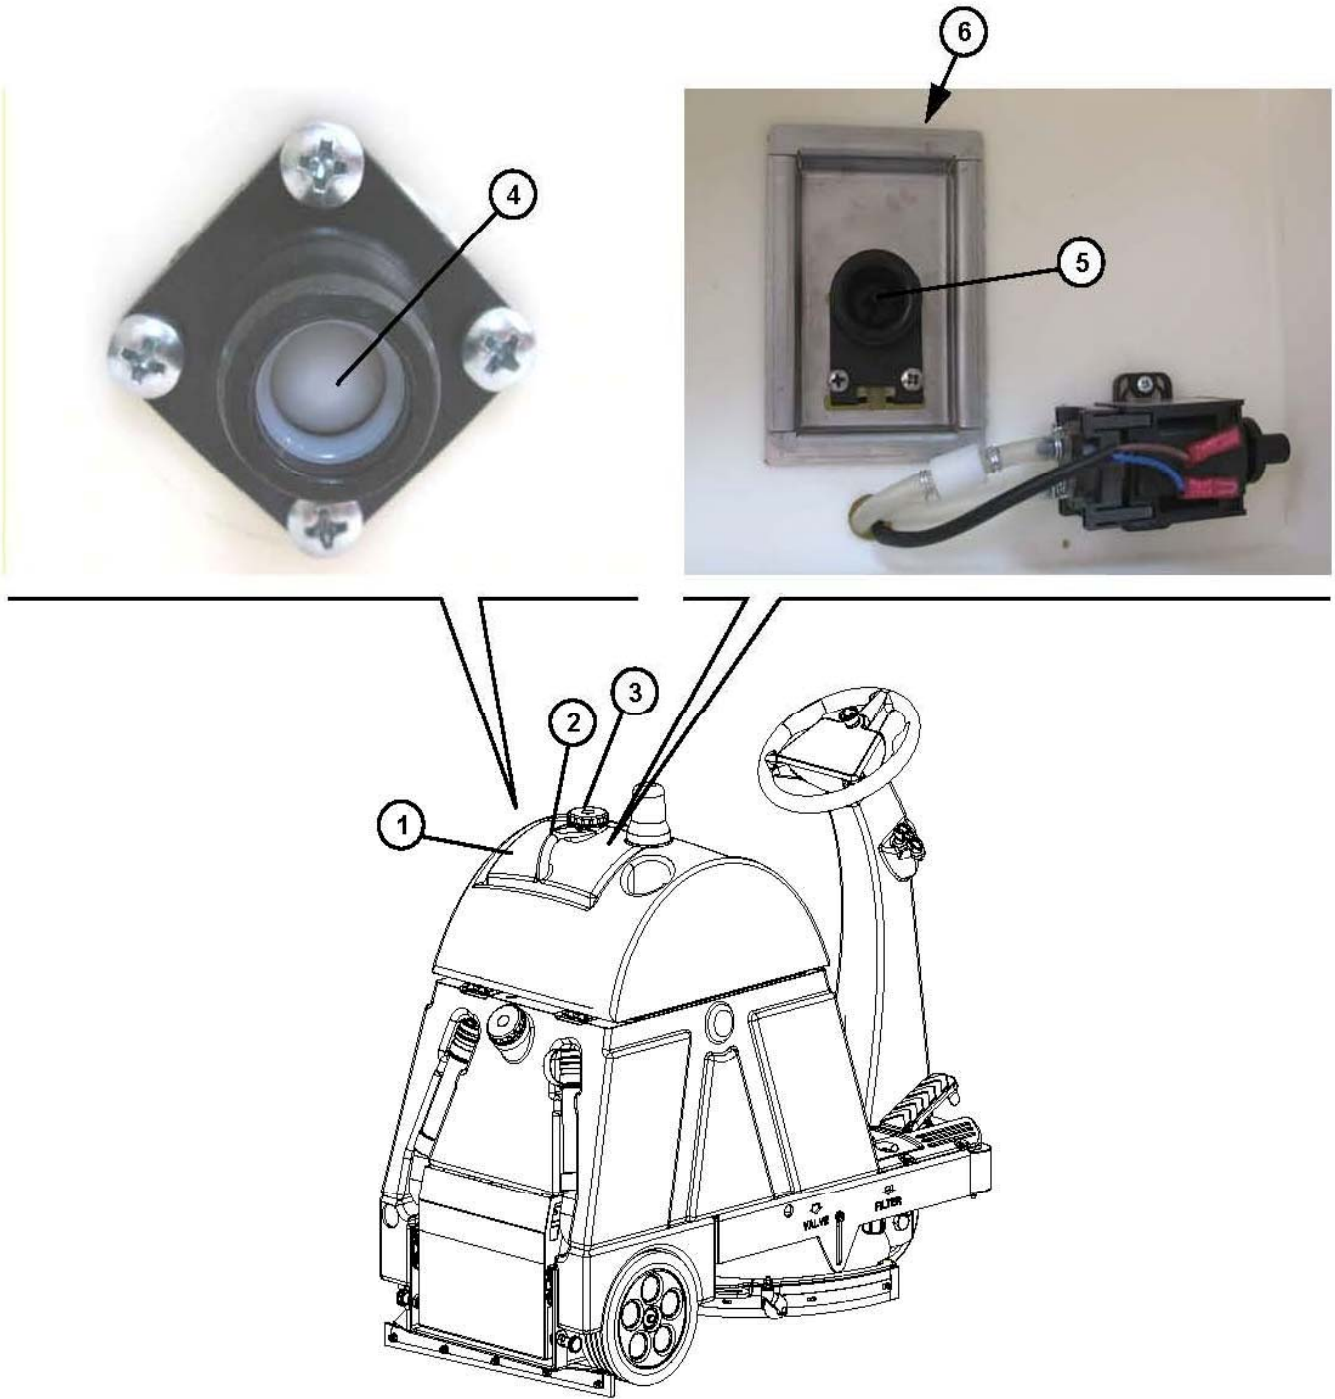

Figure 6-1
2. Remove the detergent tank from the machine (1, **Figure 6-1**), by gripping its handle (2) and lifting.
3. Unscrew the cap (3) and drain the washing detergent from the tank, in the area for disposing of the washing detergent.
4. Wash the washing detergent tank (1) and the corresponding one-way valve (4).
5. Operating in the tank compartment (1), lift the valve with pusher (5) by inserting a plate under the edge (6) of the support, then wash it and wipe it clean. Reposition it in the housing.
6. Screw on the cap (3) and place the tank (1) in its housing in the machine.